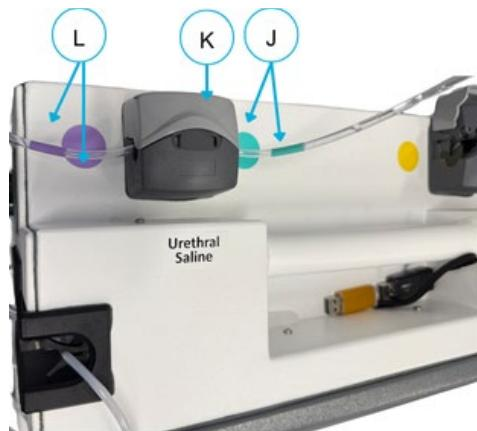

Figure 11-5: Urethral Saline Color Indicators
1. Place the **Saline Flush Line** in the Urethral Saline Pump (**K**) on the top of the Generator (**Figure 11-5**).